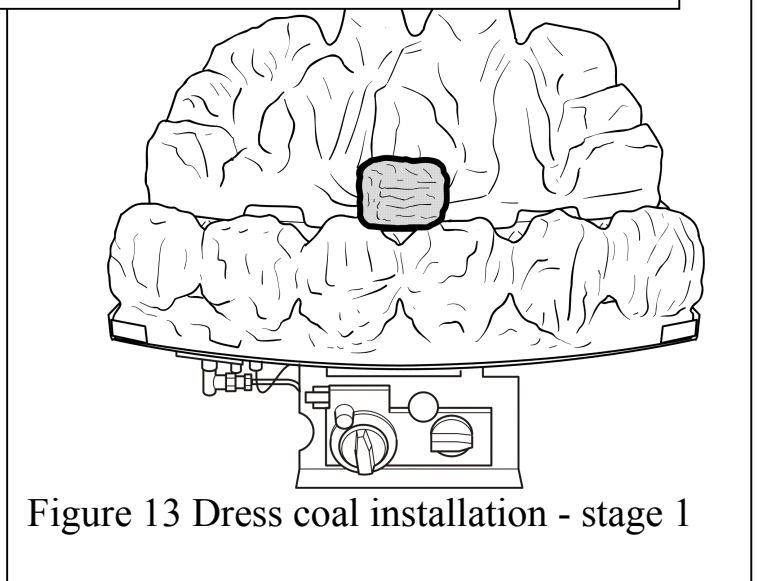

Figure 13 Dress coal installation - stage 1
3.1 Begin the coal build by placing a square coal in the centre of the front coal, ensuring that it bridges across to the matrix as shown in figure 13.